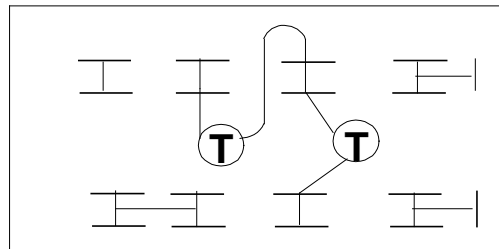

Fig. 4 Wired for 240VAC Operation
Step 1: Wire Power Transformer Terminal block as illustrated in Figure 4.